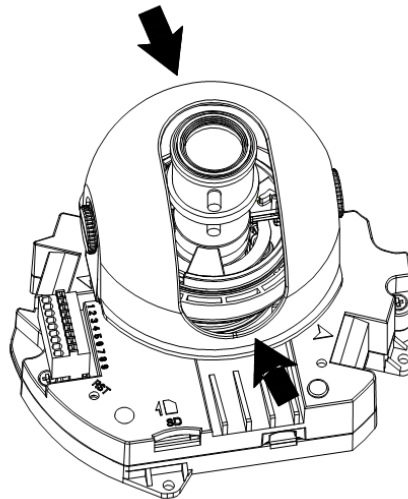

Figure 3- 5 General installation 3
- a) For the IR series product, you can skip current step and go the step b) directly. For the non-IR series product, push the port slightly to remove the decoration enclosure from the black plastic enclosure. See Figure 3- 5.
- b) Lens pan rotation angle setup. Please refer to Figure 3- 6 to unfasten the lock screw A and adjust the pan monitor angle to the proper position. Then fix the lock screw A. The pan angle ranges from 0°~350°.